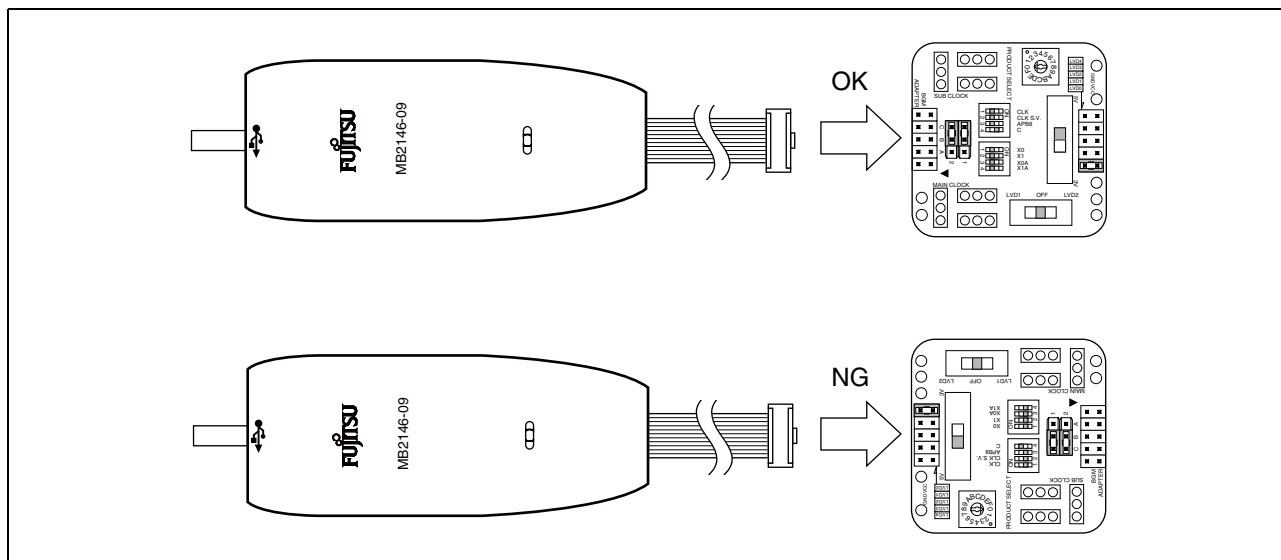

Figure 5 Connection direction of BGM adapter
- Be sure to connect the BGM adapter connector (CN3). The BGM adapter connector and the LVD2 detection voltage selector jumper plug have the same shape (see “Figure 5”). The MCU board may break if the BGM adapter connector is accidentally plugged into the LVD2 detection voltage selector jumper plug (S2) on the other side of the board.